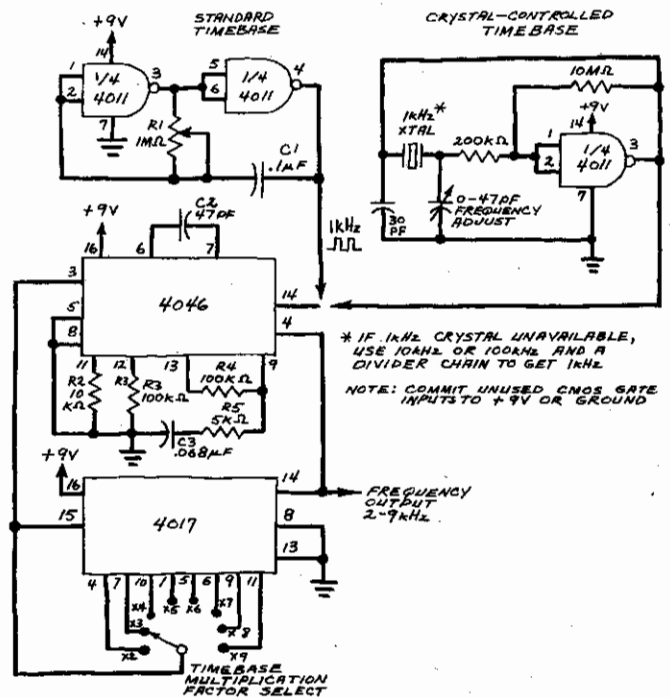

Fig. 5. Basic 2-to-9-kHz frequency synthesizer circuit.
**Basic Frequency Synthesizer.** One way to make practical use of a PLL with a divider inserted in the feedback loop is shown in Fig. 5. In this circuit, a 4017 counter is connected as a programmable divide-by- $n$  counter where  $n$  is 2 to 9.
For best results, especially in precision applications, use the crystal-controlled time base (also shown in Fig. 5). For non-precision applications or preliminary tests while you are